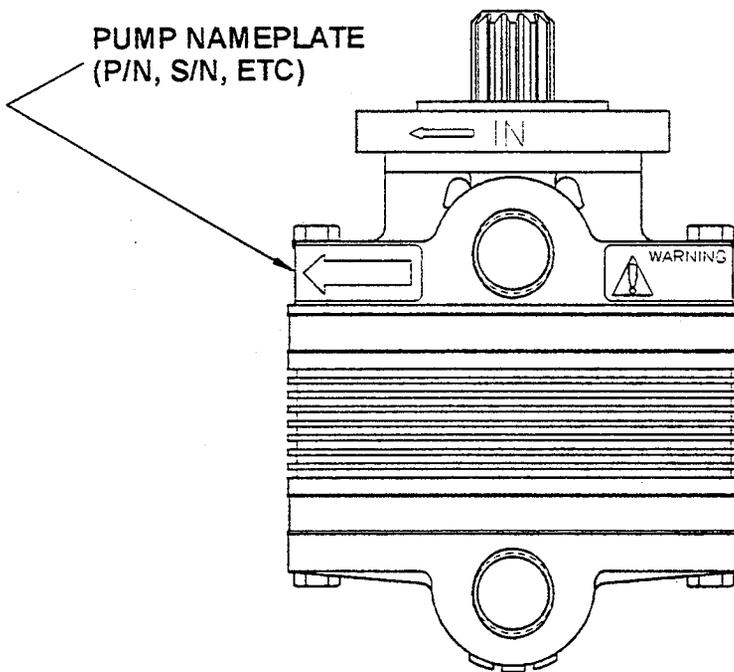

FIGURE 1
**Applicability:** Airborne dry air pumps, conversion kits and flexible coupling kits with the following part numbers/serial numbers which have not been inspected per this service letter as identified in step number seven of the procedure listed below. These components were shipped from Airborne between 1/1/98 and 10/13/98. Refer to Figure 1 for location of part number/serial number nameplate.